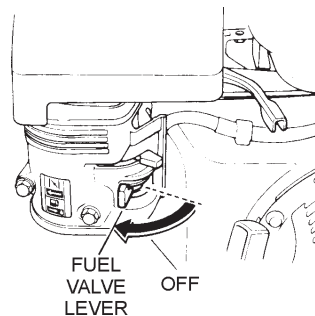

Figure 17. Fuel Valve Lever (OFF)
- Place the **fuel shut-off lever** (Figure 17) in the **OFF** position.
4. Place the **Pump Vacuum Tester** (P/N 7000030) over the pump suction (inlet) opening (Figure 17) with the vacuum gauge facing upwards. It may be necessary to apply a small amount of water around the rubber seal of the vacuum tester to make a good suction fit.